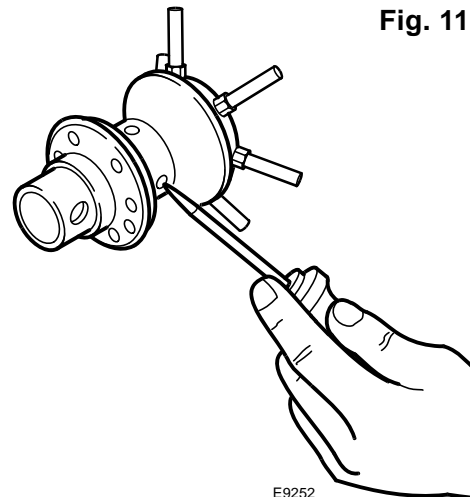

Fig. 11
- Check at regular intervals that the holes of the gas head are not obstructed. If they are, clean them with a suitable tool as shown in the figure 11.